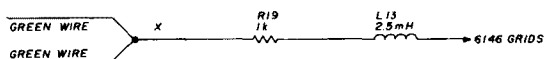
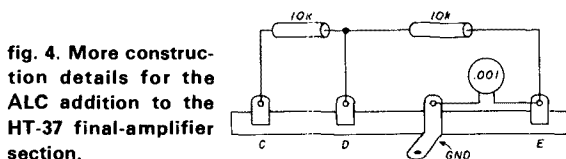

fig. 3. As-built appearance of the HT-37 (see text).
fig. 4. More construction details for the ALC addition to the HT-37 final-amplifier section.
Before performing the next step, note that two green wires are connected to R19 as shown in fig. 3. Now proceed as follows:
12. Remove both green wires from point X in fig. 3. Leave them free for now.
13. Mount two 10k resistors and a 0.001- μ F ceramic bypass capacitor on a 4-lug terminal strip, as shown in fig. 4.
15. Connect the two green wires lifted in step 12 to point C (fig. 4) and run a new wire from point D (fig. 4) to R19 (point X in fig. 3).
The circuit layout for this device is not critical. Fig. 3 illustrates one printed circuit board layout design and parts placement for the logic probe. The overall board dimensions are 3.3×10.2 mm (1.3×4 inches). You could use point-to-point wiring on a circuit board with holes on a standard 2.5 mm (1 inch) grid instead. The probe tip can be made from 16 AWG (1.3 mm) tinned-copper wire or a small brass nail. The +5 and ground inputs should be connected to clip leads so they may be easily connected to the circuit supply voltage source. Standard TTL chips may be substituted for the LS devices shown, but the circuit loading will be increased.